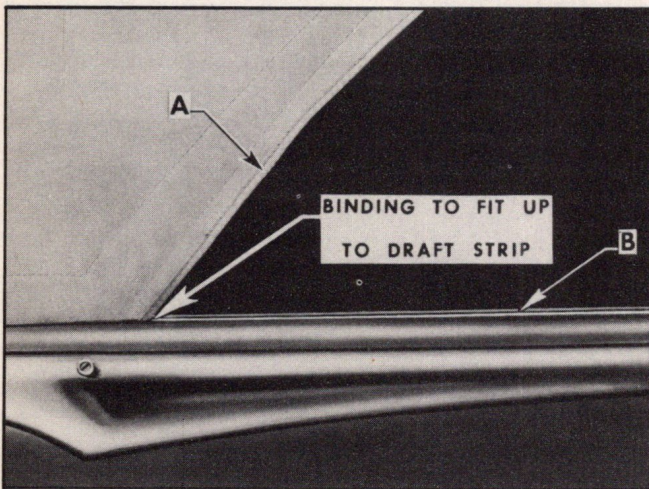

Fig. 1 Rear Quarter Curtain to Outer Draft Panel Fit
- a. The rear quarter top material side binding "A" should fit as close as possible to the rear quarter glass outer draft strip "B" as shown in Fig. 1.